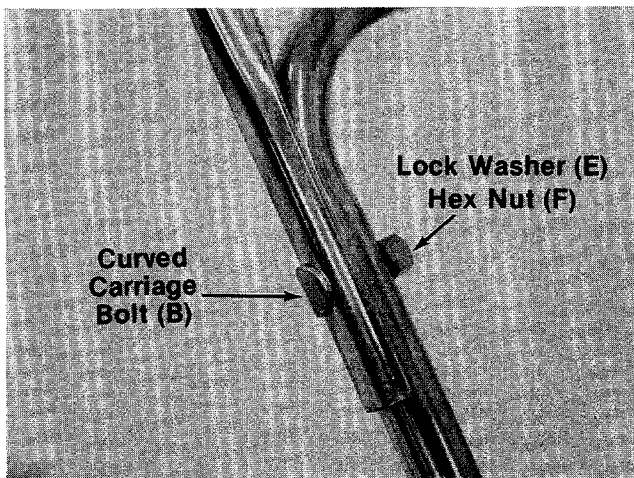

FIGURE 3.
A. **Units with Non-Folding Handle**—Secure upper handle with two curved carriage bolts (B), lock washers (E) and hex nuts (F). See figure 3.
B. **Units with Folding Handle**—Secure with two carriage bolts (B) and hand knobs (A) as shown in figure 3. The knobs can be either to the inside or outside of the handle.